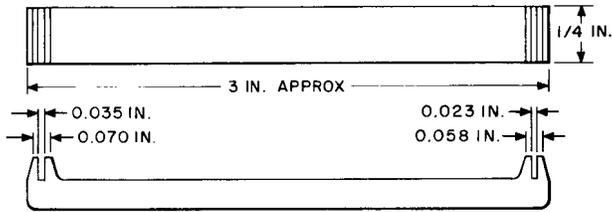

Fig. 14—R-3159 Adjuster Tool
**2.14 R-3159:** The R-3159 adjuster tool (Fig. 14) is used for adjusting normal post springs on the 197-type switches.